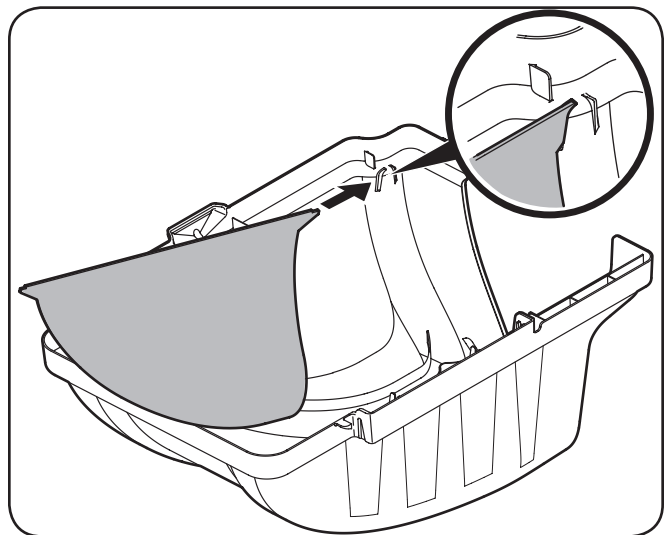
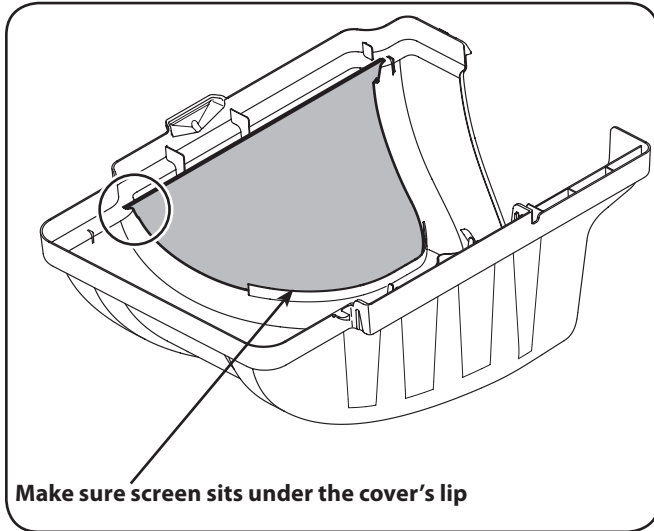

Figure 5-7
Figure 5-8
- If not already installed by the factory,** install the bagger screen into the bagger cover by first inserting one end into the corresponding cutout mounting hole, as in Figure 5-7. Make sure to feed the screen under the lip, as in Figure 5-8.
- Clip in the other side of the screen by flexing the screen and pushing it down into the other corresponding cutout hole. See Figure 5-8.